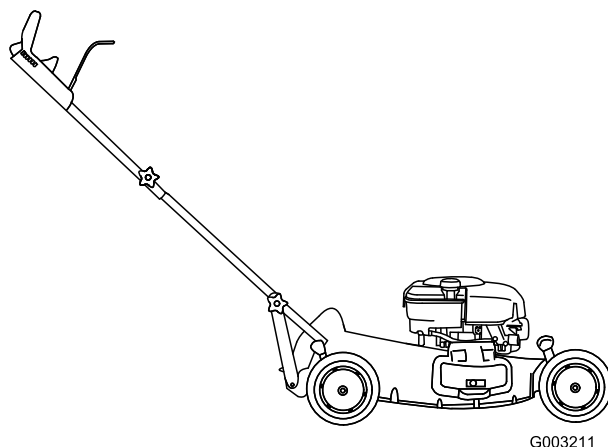

Figure 5
4. Rotate the handle rearward (Figure 5).